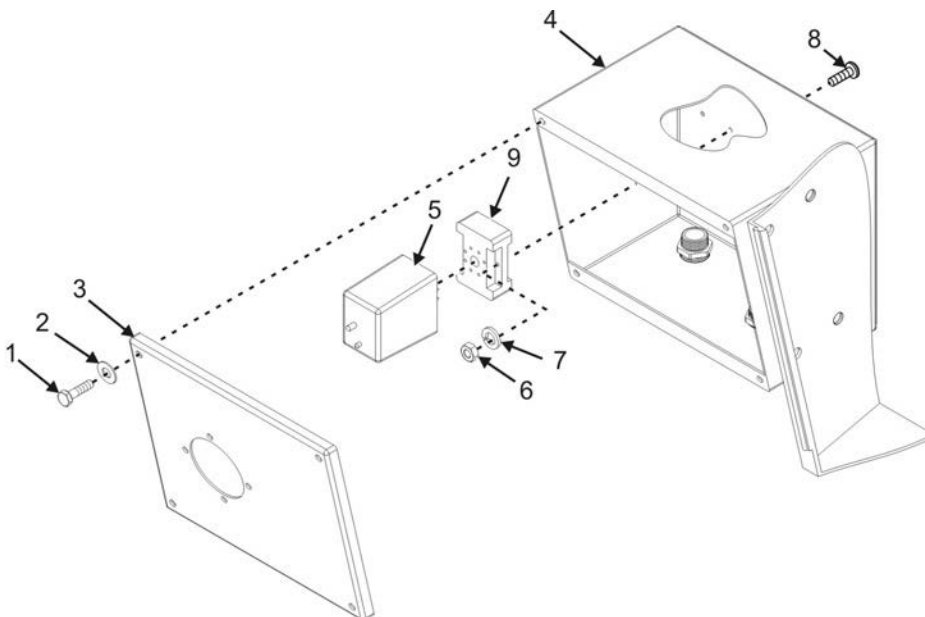
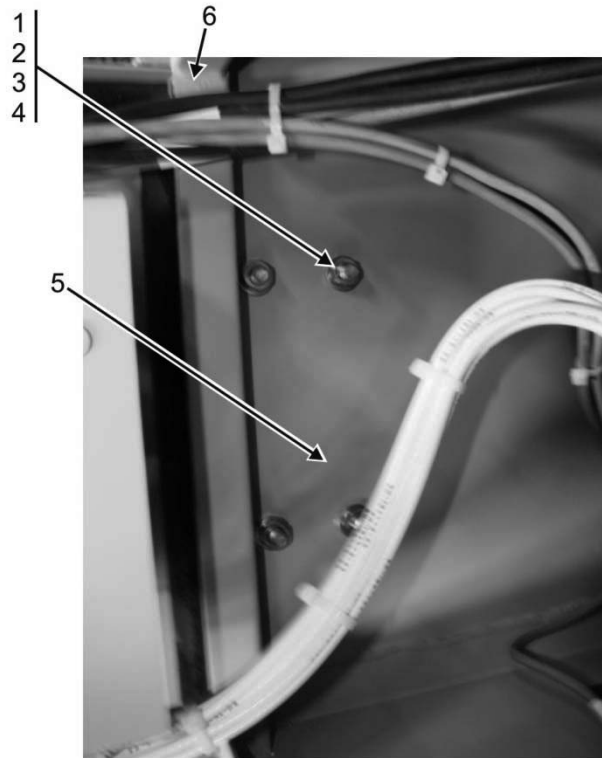

Figure 8. Power Input Box K1 Relay Removal.
Figure 9. Power Input Box Removal.
- (10) On the power input box, remove four screws (Figure 8, Item 1), four washers (Figure 8, Item 2), and cover (Figure 8, Item 3) from power input box (Figure 8, Item 4).
- (11) Remove four nuts (Figure 9, Item 1), four lock washers (Figure 9, Item 2), four washers (Figure 9, Item 3), and four rubber washers (Figure 9, Item 4) securing power input box (Figure 9, Item 5) to power box (Figure 9, Item 6). Discard hardware.
- (12) Remove power input box, J9, and J13 cables (with strain relief).
- (13) Unplug K1 relay (Figure 8, Item 5); and remove two nuts (Figure 8, Item 6), two lock washers (Figure 8, Item 7), two screws (Figure 8, Item 8), and relay socket (Figure 8, Item 9) from electrical box (Figure 8, Item 4). Retain hardware for installation.
- (14) Disconnect J9 cable wires from relay socket (leave jumper wire between K1-1 and K1-2 installed). Retain relay and socket for installation into power box. Discard electrical box, J9 and J13 cables (with strain relief).
- (15) In the power box, plug four power input box mounting holes with four MS35307-360 bolts, four MS15795-814 washers (Figure 9, Item 3), four MS35338-141 lock washers (Figure 9, Item 2), and four MS35649-2384 nuts (Figure 9, Item 1).